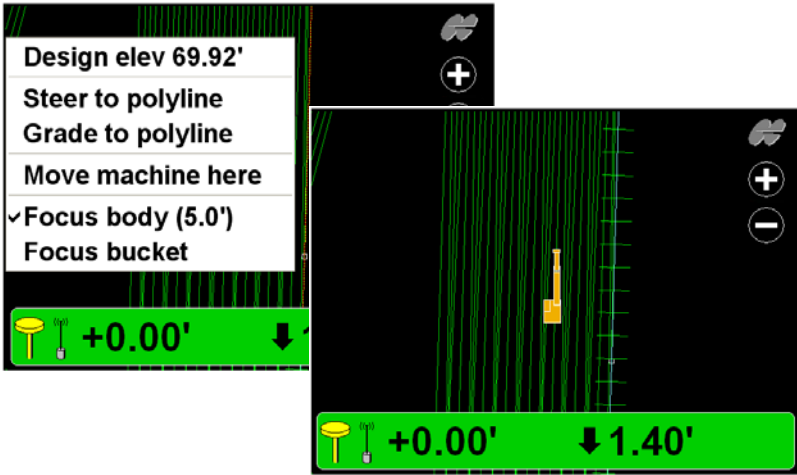

Figure 5-40. Grade To Polyline
3. Tap the polyline to use for grading and tap **Grade to polyline** on the pop-up menu; graphical cross lines display along the polyline (Figure 5-40 on page 5-32).